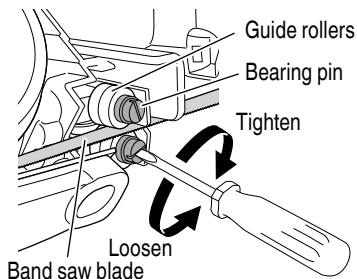

Fig. 26
4. Inspection of band saw blade guide rollers and adjustment of gaps (Fig. 26)